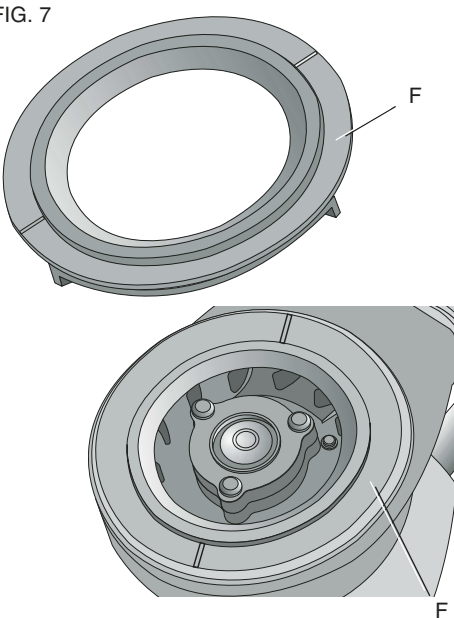

FIG. 8
Brush Replacement (Fig. 8, 9)
- 1. Remove the three screws from the top cap and lift off top cap, as shown in Figure 8.
- 2. Pull the brush spring (I) back (be careful not to pull completely off) and slide out the old brush.
- 3. Pull the brush wire (J) which is connected to the brush, out of the motor field (K).